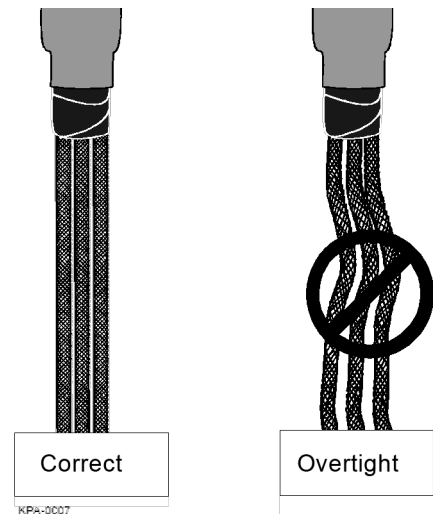

Figure 11
Step 7: Gently remove the extra slack in the braided tubing by sliding your hand down the braided tube (Figure 11). Do NOT pull on braided tubing!